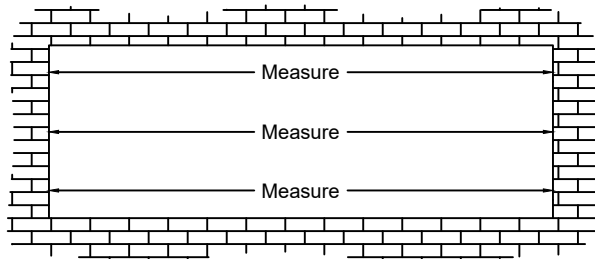

Fig. 17.2
- B. Measure the width of the opening (Rough Opening) at the top, middle and bottom. Select the smallest of these dimensions and subtract the left and right caulk joint width per approved shop drawing (1/2" minimum caulk joint at jambs). SEE Fig. 17.2.